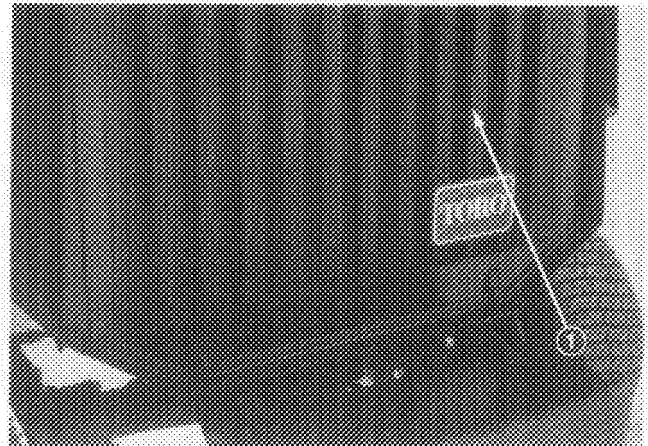

Figure 38
ENGINE COOLING SYSTEM (Fig. 38–39)
B. Unscrew knobs and remove rear screen (Fig. 38). Clean screen thoroughly.